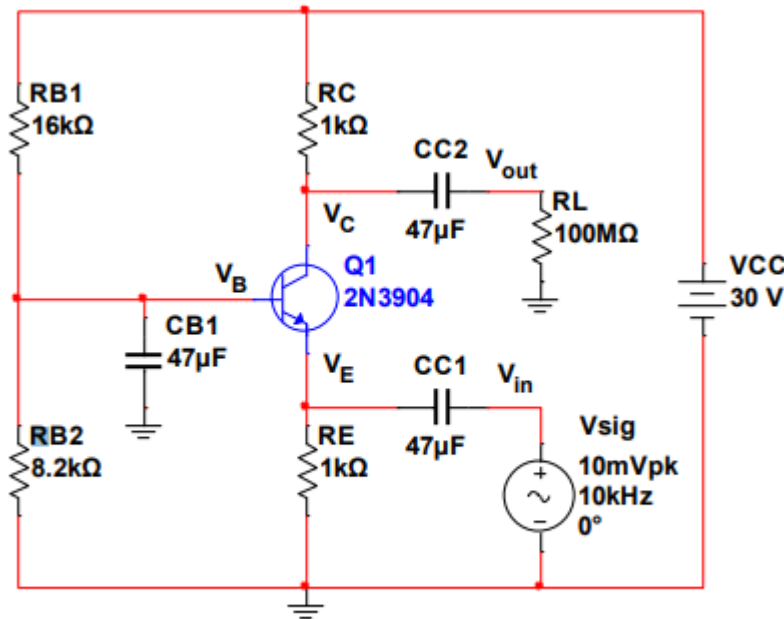

Figure P.6.1 – Common Base Amplifier
1. **Alter** either of the previous amplifiers to match the circuit shown in **Figure P.6.1**.
2. **Perform** a **transient analysis** to plot five cycles of the input and output voltage as labeled in **Figure P.6.1**. Follow the same procedure from above for adjusting the axes if necessary.